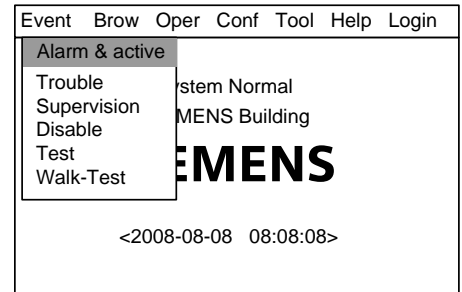

Fig.36-1
1. Press “Menu” to browse the main menu (Fig. 36-1)